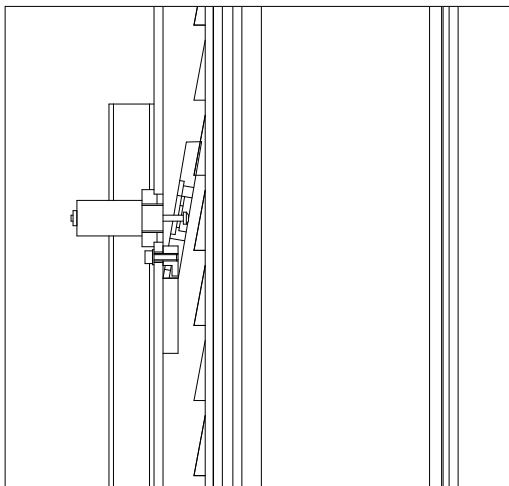

Fig. 16
- ◆ If the hydraulic cylinder breaks, the safety wedges will trip (Fig. 16), located inside the posts. The wedges are pushed by the spring and immediately stop the carriage preventing their descent.